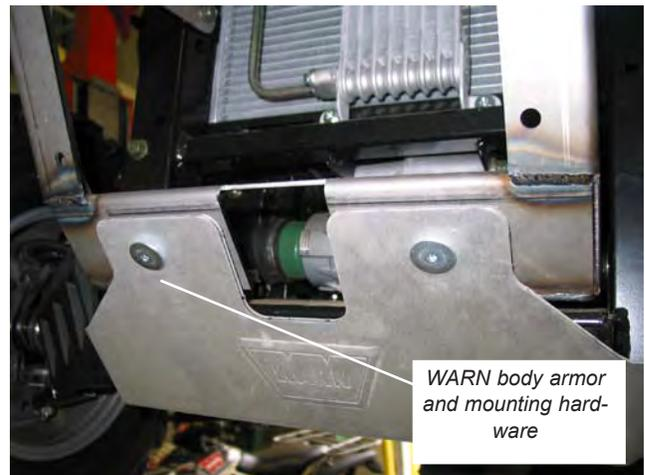

Figure 5
5. If vehicle is equipped with WARN chassis body armor (PN75266), as shown in Figure 5, then mounting hardware provided with body armor kit can be reused to secure body armor in place. Again use one 1/4 flat washer and one M6 x 1.0 nylon lock nut (provided) on each side on back surface to retain hardware. Torque to recommended specifications of 8lb. ft. (10.8 N-m).